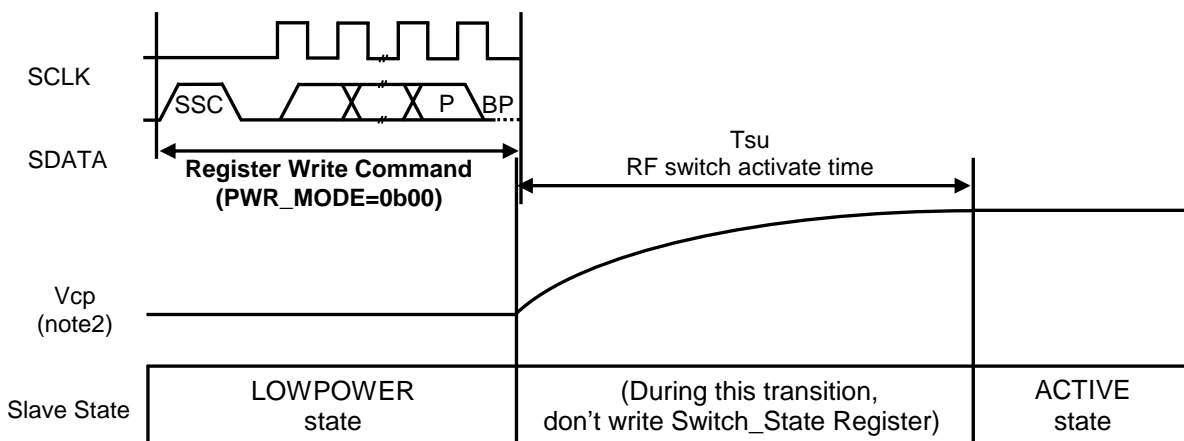

**Figure 4. Slave State Diagram**
- Figure 4, 5 and Table4 describes the RFASWE660DTF03 has four operating states.
The RFA5WE660DTF03 has four operating states, which are ACTIVE, SHUTDOWN, STATUP and LOW POWER. The transitions between these four states are set writing the PWR\_MODE register or VIO as shown in Figure 4. The internal circuit operations in each operating state are shown in Table 4.